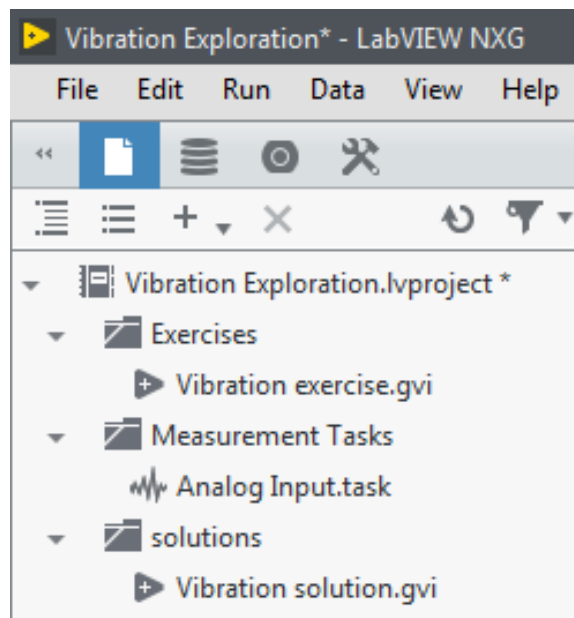

Figure 7-5 The VIs used in your project can be found in the project files view of the navigation pane.
12. Create a new folder to store your tasks by clicking the plus sign above the project files and selecting **folder**. Name the folder **Measurement Tasks**, and place the analog input task in the folder by dragging and dropping it into place. Your project files should look like Figure 7-5 .